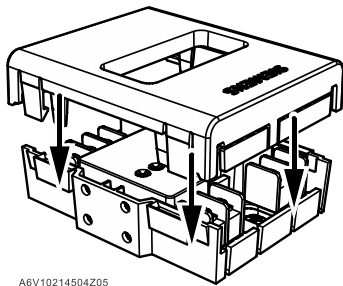

Fig. 4
3. If the protection cover FDCH1801 is purchased, refer to Fig. 4 for installation.